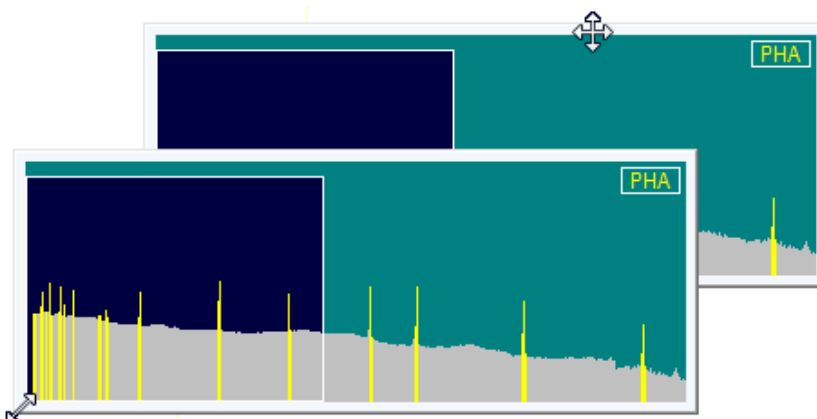

Figure 8. Two-Sided Pointer for Sizing Full Spectrum View, and Four-Sided Pointer for Moving Window.
- **Resizing** — Roll the mouse pointer over the side edge, bottom edge, or corner of the window until the pointer changes to a double-sided arrow (see Fig. 8). Click and drag the edge of the window until it is the size you want, then release the mouse button.
- **Moving** — Roll the mouse pointer onto the top edge of the window until the pointer changes to a four-sided arrow (see Fig. 8). Click and drag the window to its new location, and release the mouse button.